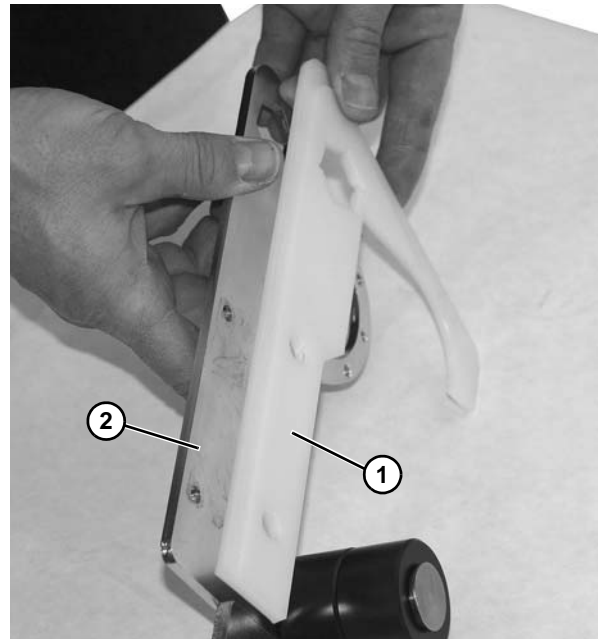

Figure 75
20. Remove nose bar spacer (**Figure 75, item 1**) from nose bar backing plate (**Figure 75, item 2**).